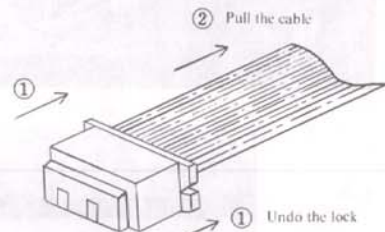

Figure 10-3
- ① Remove the operation panel (refer to 14.1).
- ② Disconnect all 6 of the main PC board connectors and remove the 6 screws (refer to picture 10-1).
- ③ Raise the main PC board and remove the cable protection sheet.
- ④ Release the connector lock connected to the flat cable and disconnect the cable. The main PC board should now be removed (refer to picture 10-2 and figure 10-3).
- ⑤ Silkscreen printed part B1 on the main PC board is the lithium battery. Remove the solder with the soldering iron holding the two legs of the lithium battery. The lithium battery should now be removed.